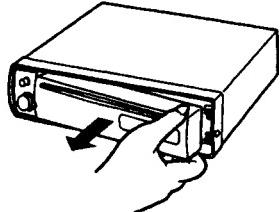

Fig. 5
- 2. To remove the front panel, pull its right-hand side toward you. (Fig. 5)